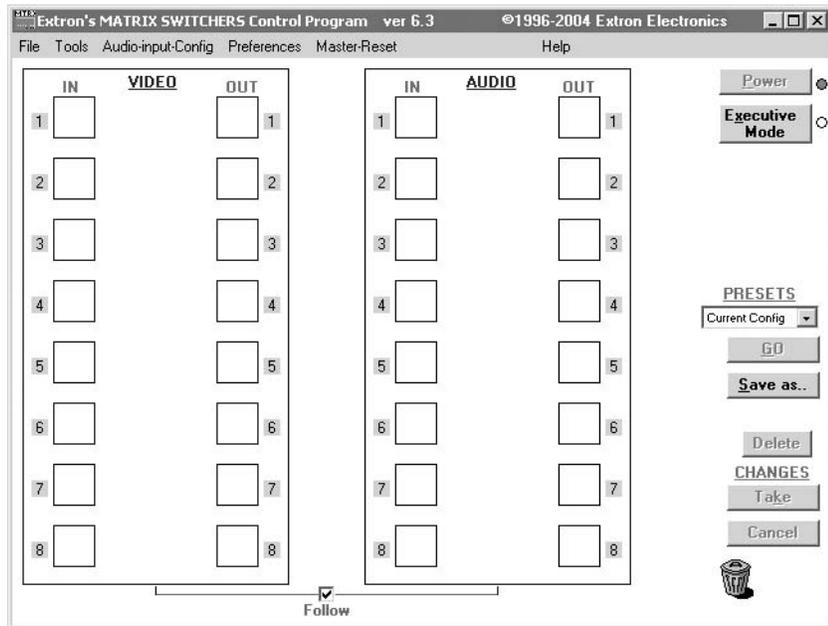
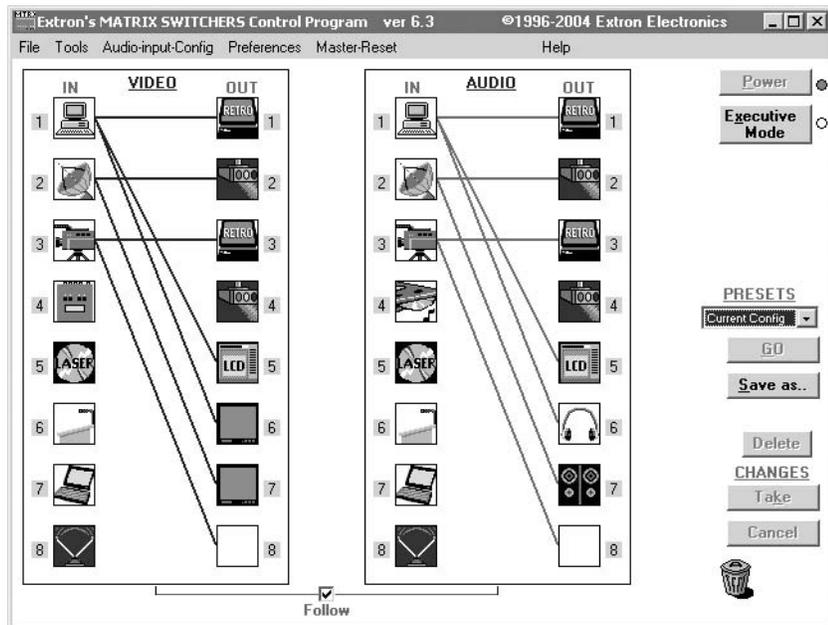

Figure 4-9 — Extron Matrix Switchers Control Program window (blank)
Figure 4-10 — Sample program window (complete)
- The Extron Matrix Switchers Control Program window (figure 4-9 and figure 4-10) displays the current configuration of the attached matrix.
Once the status bar has progressed fully from left to right across the indicator window, the firmware loader utility automatically resets the switcher (figure 4-10).